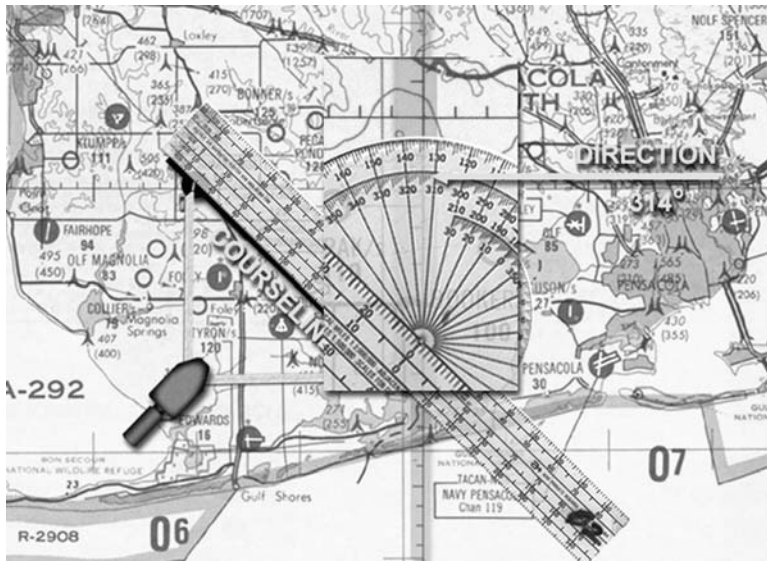

Figure 4.2-18 Measuring East/West Direction
3. Spread the dividers and place the tips on the courseline. If they will reach, place the tips of the dividers on the two points (Figure 4.2-18).
4. Place the straightedge of the plotter against the two points of the dividers (Figure 4.2-18).
5. While keeping the straightedge against the dividers' points, slide the plotter along the course line until the plotter's grommet is over a meridian (Figure 4.2-18).
6. In conclusion, go to the outer two scales and note where the meridian (the one under the grommet) intersects the scales. There will be a choice of two answers, choose the one that is nearest the estimate. Be sure to count the marks carefully and remember the scale increases in a counterclockwise direction (Figure 4.2-18).